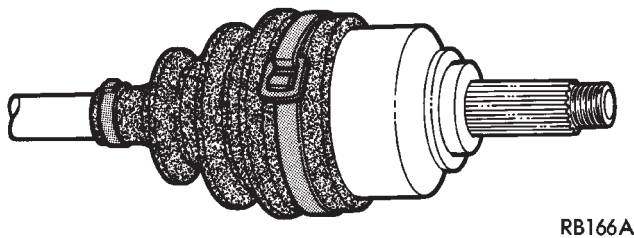

Fig. 13 Correctly Installed Clamp
(15) Fig. 13 shows the finished binding strap type clamp in position, correctly fitted and unable to come loose.